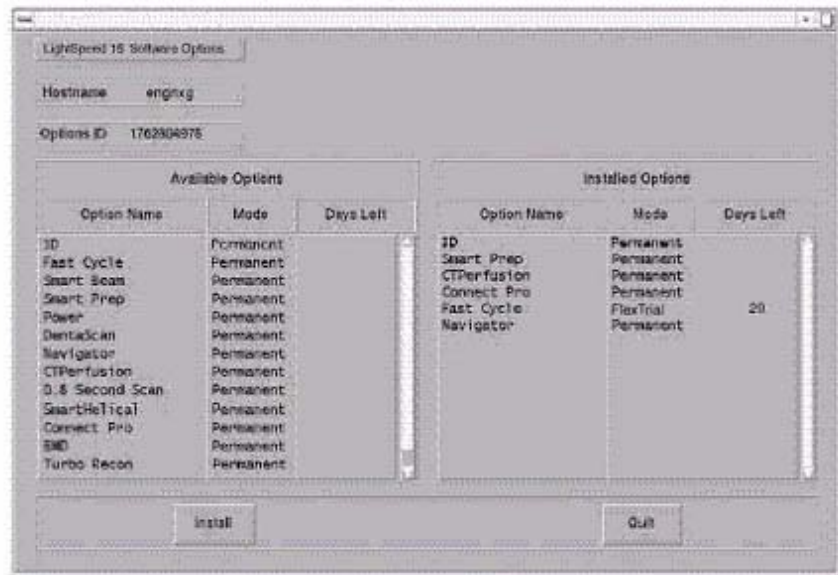

Figure 8-21 Software Options screen
- 8.) Click OK. Available options appear on the Software Options screen (Figure 8-21).